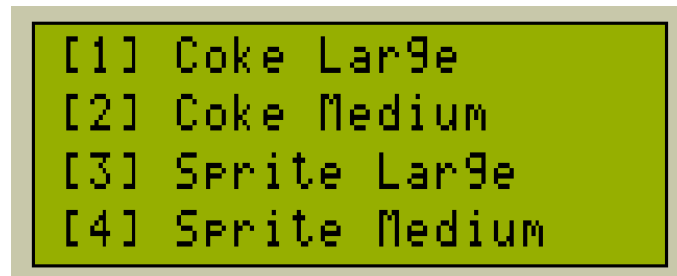
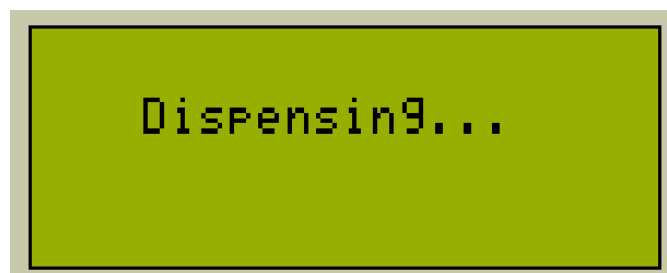

Fig. 3. Main menu.
Fig. 4. Display while dispensing.
2. Connect four (4) LEDs to any free I/O port. Although there are free ports in PORTB, it is not recommended since PB0 and PB1 is already used by the LCD control lines RS and E which means that the entire PORTB should be reserved. This is due to the nature of PORTB as an 8-bit output port and it is difficult to set individual bits. Therefore, a second 8255 PPI should be added. Choose an address range where to connect the second 8255 in the decoder. The second 8255 must be programmed as with the first one. Connect the LEDs to the second 8255.
A computer system with an LCD and numeric keypad controls a soft drink dispenser (via logic signals represented by 4 LEDs). The dispenser has two (2) types of beverage and each has two (2) cup sizes. When the system starts, the choices will be displayed (see Figure 3) then waits for user input.
After the user inputs the choice (1-4), the corresponding LED will turn for the given duration then the LCD will display a status as shown in Figure 4. After the time duration, the LED turns of and the display will go back to the beverage menu (see Figure 3) and waits for user input.